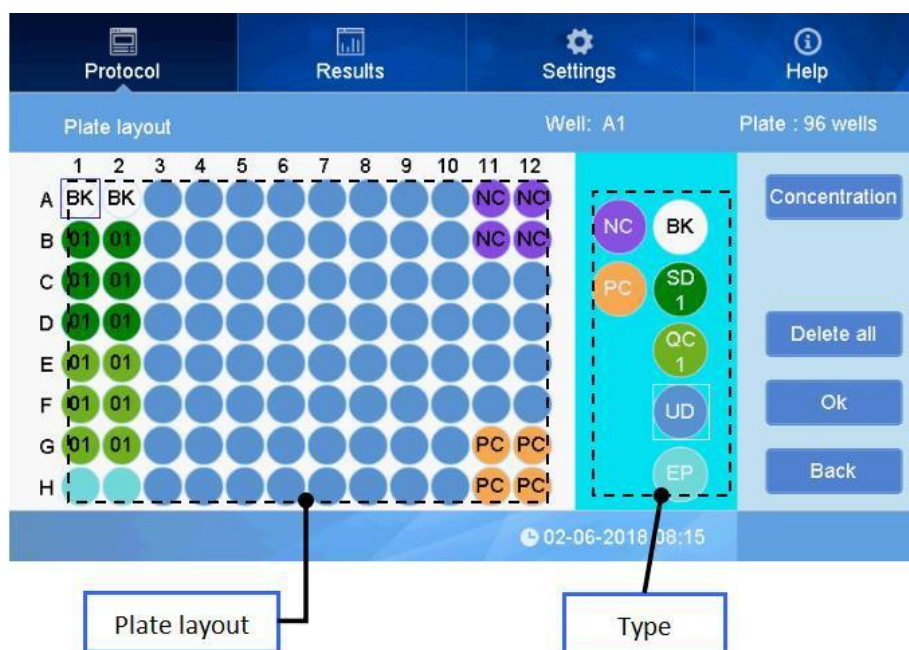

Fig. 16 Layout window
Instrument has two reading speeds: Fast and Normal. Click on the “Mode” to choose the speed of reading (Figure 16).
To set up the experiment, select Layout (Figure 11a) and a new layout window will open (Figure 16).
1. Select a type of sample to input for a specific well (on the screen under “type” – see figure 16).